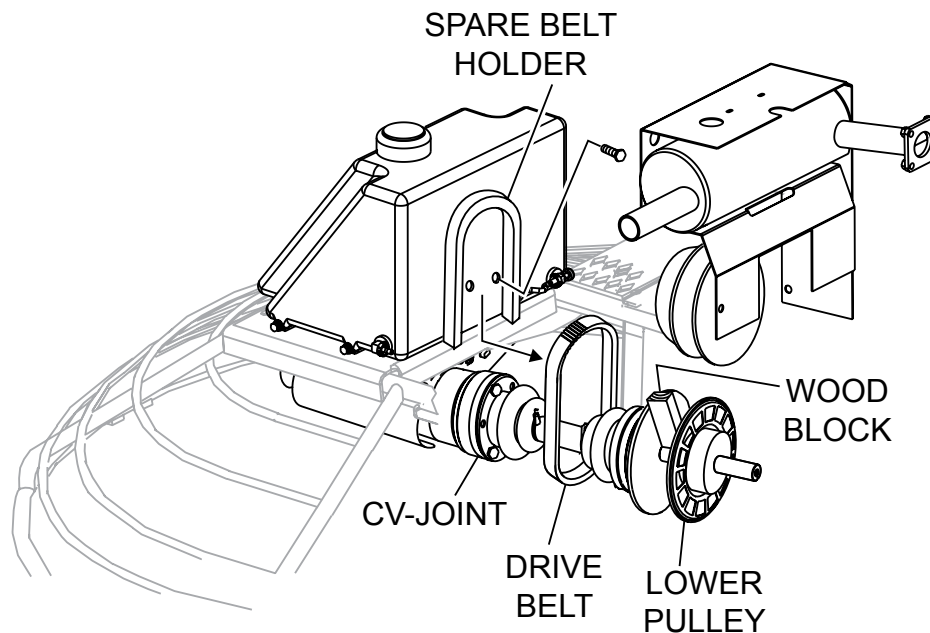

Figure 20. Installing Drive Belt
2. To replace the drive belt with the spare drive belt, remove the 2 bolts that secure the spare belt holder (Figure 20). This will allow free movement of the belt for installation. Take care with to not contaminate the replacement belt with grease or dirt.